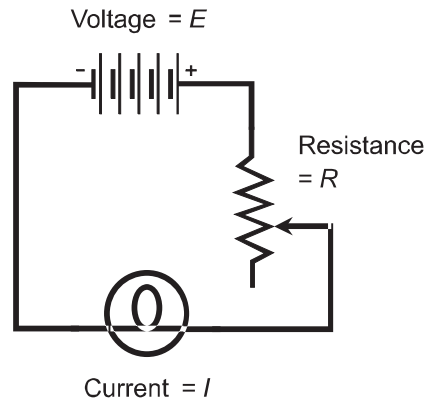

Fig. 2-11. Illustration for Quiz Questions 4 through 6.
4. Examine Fig. 2-11. It shows a battery connected to a potentiometer and a lamp. Suppose the voltage of the battery (E) and the ohmic value of the potentiometer (R) are set such that the lamp glows partially, but not to its full brilliance. Suppose the setting of the
- (a) the bulb shines less brightly because the current (I) through it decreases.
- (b) the bulb shines more brightly because the current (I) through it increases.
5. If the value of E in the circuit of Fig. 2-11 is increased slightly but the value of R does not change, then the value of I
6. Suppose that the lamp in Fig. 2-11 is shorted out, so that current does not flow through it, instead, only flows through the potentiometer. Under these conditions, if the value of R is doubled and the value of E is also doubled, then the current through the potentiometer